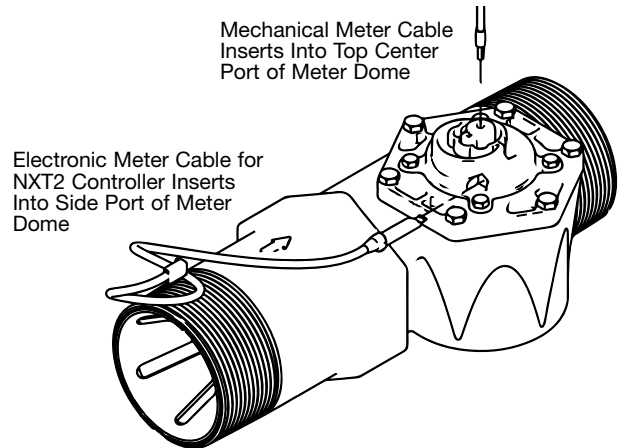

Figure 1
- 13.* Reconnect meter cable(s) into meter dome(s) according to Figure 1. NXT2 & SXT controller meter cable(s) must use side port on meter dome(s). Connect the other end of the meter cable(s) to the control valve's P5 port located on the controller valve's controller of the control valve the meter is plumbed into. For PWS30-2-PPSM series systems, the meter cable connects to a single control valve controller. See page 16 & 17 for P5 location.